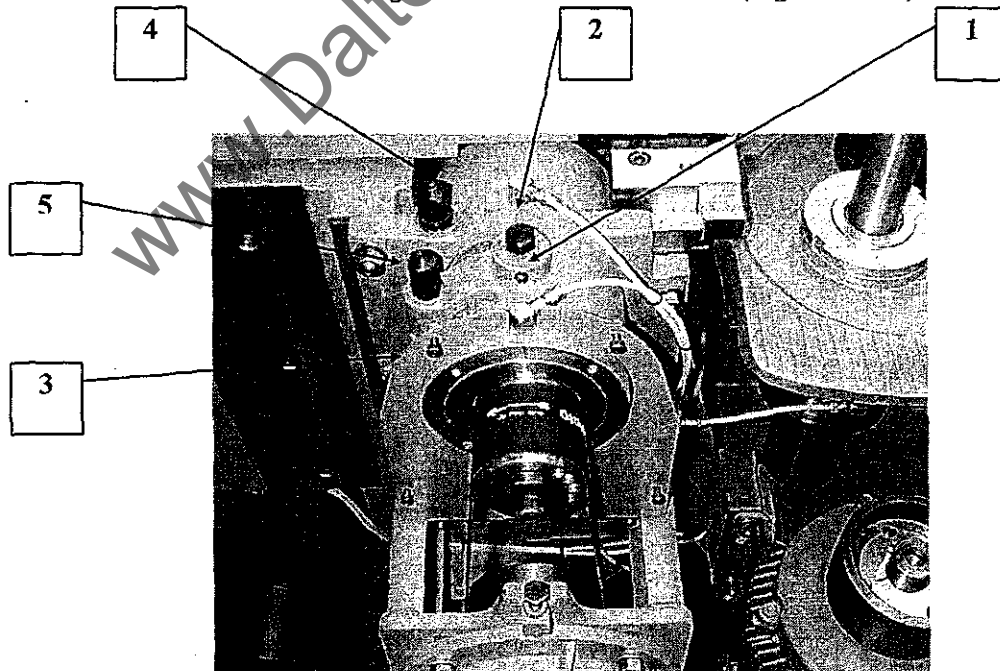

Figure 7.3.2
7.3.2 Removal of K23/K25 First Bottom Head Spindle (Figure 7.3.2.)